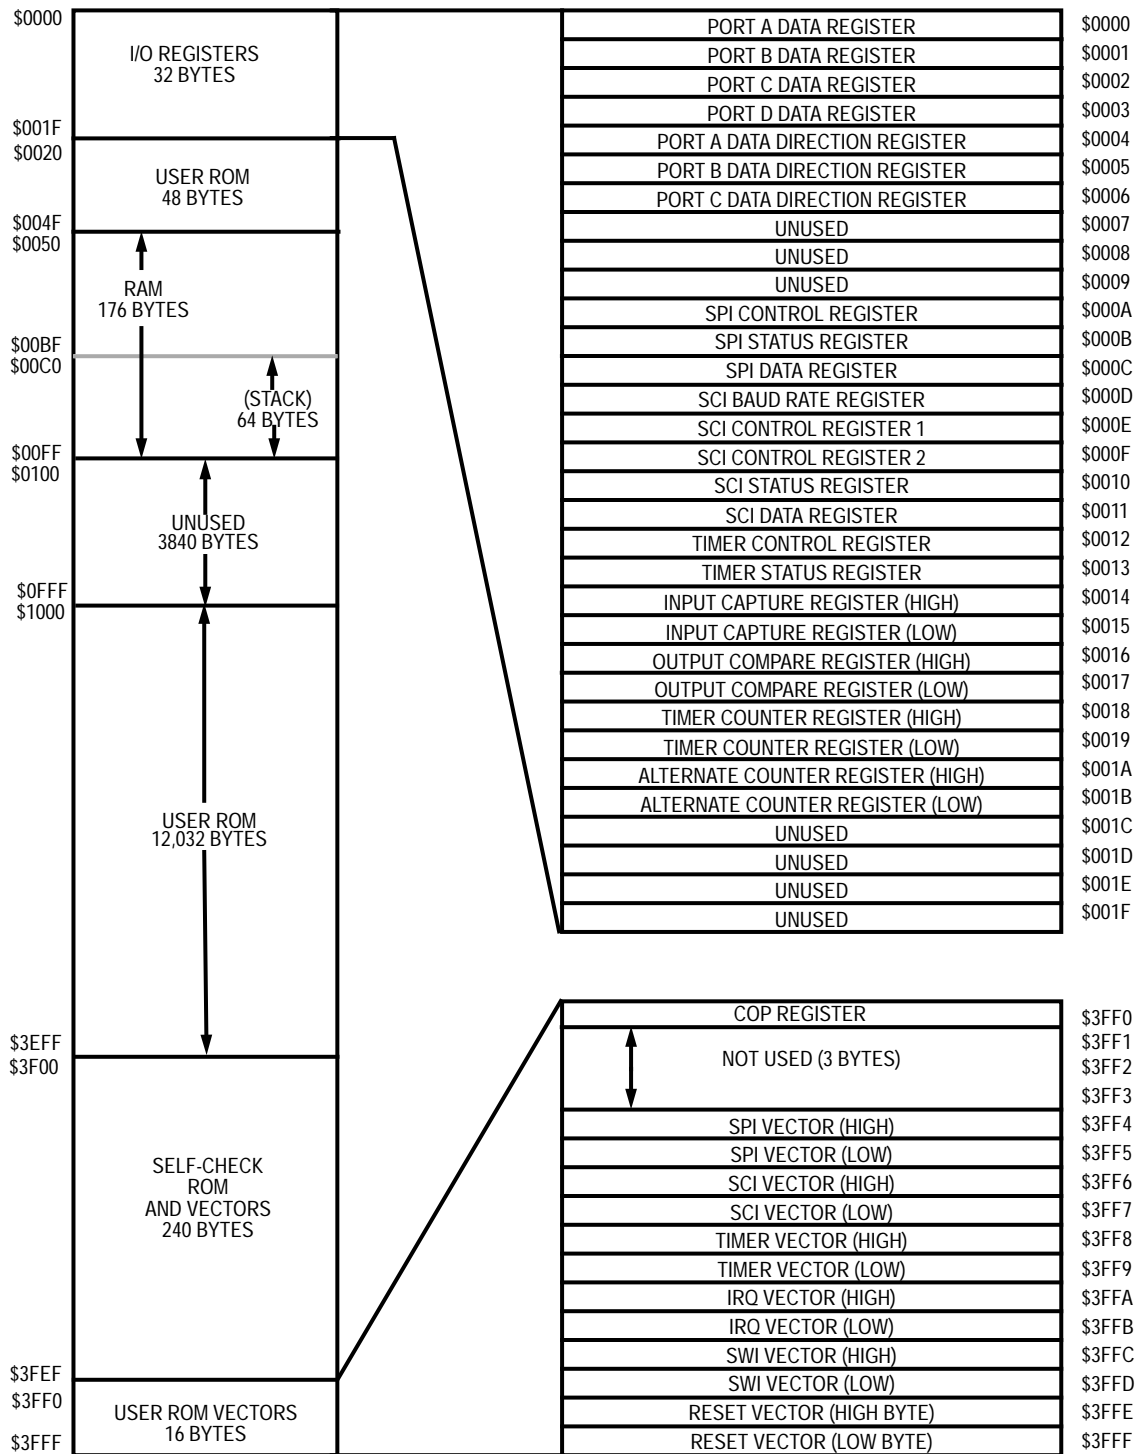

Figure 2-1. Memory Map
The MC68HC05C12A has an 16-Kbyte memory map, consisting of user read-only memory (ROM), user random-access memory (RAM), self-check ROM, and input/output (I/O) registers. See Figure 2-1 and Figure 2-2.
The user ROM consists of 48 bytes of page zero ROM from \$0020 to \$004F, 12,032 bytes of ROM from \$1000 to \$3EFF and 16 bytes of user vectors from \$3FF0 to \$3FFF. The self-check ROM and vectors are located from \$3F00 to \$3FEF. See Figure 2-1.
The user RAM consists of 176 bytes and is used both for general-purpose RAM and stack area. See Figure 2-1. The stack begins at address \$00FF. The stack pointer can access 64 bytes of RAM in the range \$00FF to \$00C0. See **3.2.4 Stack Pointer (SP)**.